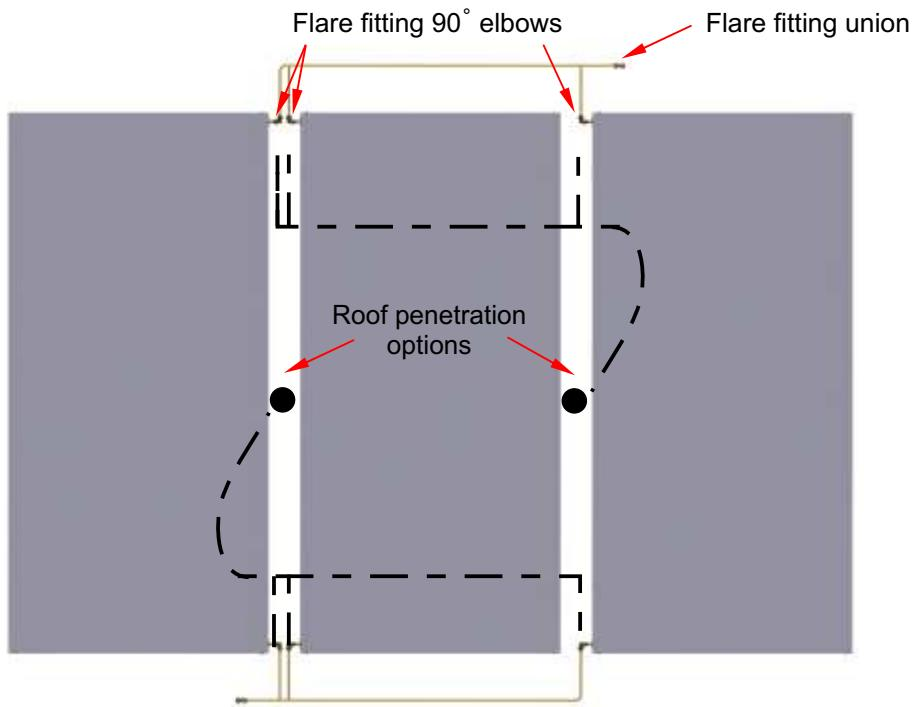

Fig. 6.4.3 – Three collectors configuration.
1. Position collectors on either side of roof penetration with connection tubes pointing in (Fig 6.4.3). Space each collector 5-3/4" (146 mm) apart. – Alternatively temporarily use center-flashing to achieve correct spacing of panels and secure it to the c-channel.